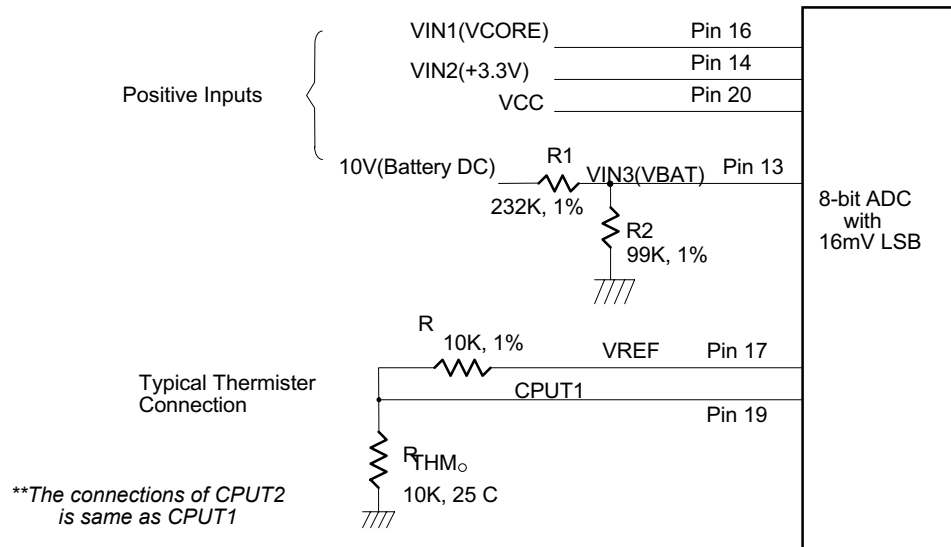

Figure. 10.
The maximum input voltage of the analog pin is 4.096V because the 8-bit ADC has a 16mv LSB. Really, the application of the PC monitoring would most often be connected to power suppliers. The CPU V-core voltage and +3.3V voltage can directly connected to these analog inputs. The 5VSB and battery inputs should be reduced a factor with external resistors so as to obtain the input range. As Figure 10 shows.
The W83L784AR can connect three thermistors to measure three different environment temperature. The specification of thermistor should be considered to (1) β value is 3435K, (2) resistor value is 10K ohms at 25°C. In the Figure 10, the thermistor is connected by a serial resistor with 10K Ohms, then connect to VREF (pin 17).